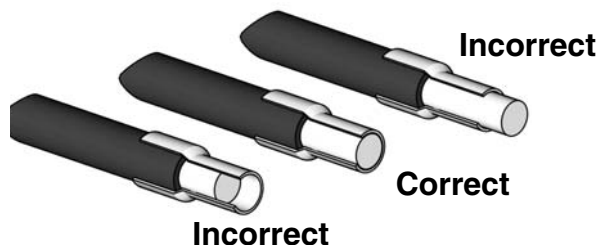

FIG. 6
- a. Ensure strip length is correct by fitting ferrule over exposed wire. Ferrule should be flush with wire end. See FIG. 6.
- b. If wire is short of ferrule end, adjust strip length accordingly. If bare wire is protruding from ferrule, trim flush to ferrule end. See FIG. 6.